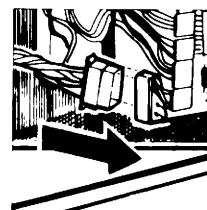

Figure 4-38 Floppy Drive Cabling
- 6) Now install Drive B cable by taking the end of the ribbon cable with the thinner connector and thread it through the hole shown in Figure 4-38. When correctly threaded, the holes on the connector should face away from you.
- 8) Now take the other end of the ribbon cable and drop it through the hole in the chassis between the two drives. See Figure 4-38.
- 9) Use the cable clip shown in Figure 4-38 to turn the cable in the proper direction for its connection to Drive B. Follow the sequence of steps shown in Figure 4-38 to fold the cable correctly. When correctly folded, slide the cable into the cable clip.
- 11) Connect the power cable (4 pin Plug) onto the power connector located on the diskette drive's controller card. See Figure 4-38.